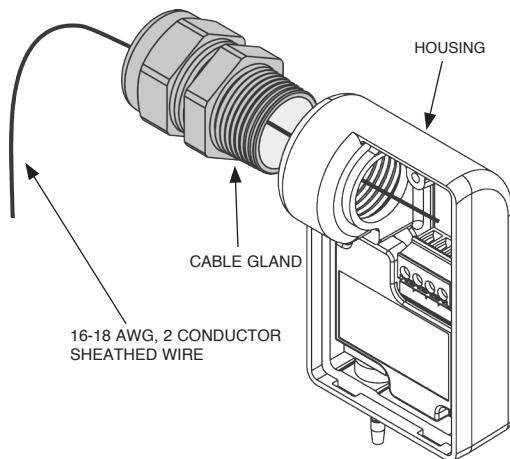

FIGURE 6-39
- b. Run a 16-18 AWG, 2 conductor power-limited cable through the cable gland and continue into the placement indicator switch. See Figure 6-39.
- c. Hand-tighten the cable gland to the placement indicator switch housing. See Figure 6-39. At this time, do not tighten the cable gland to the wire.